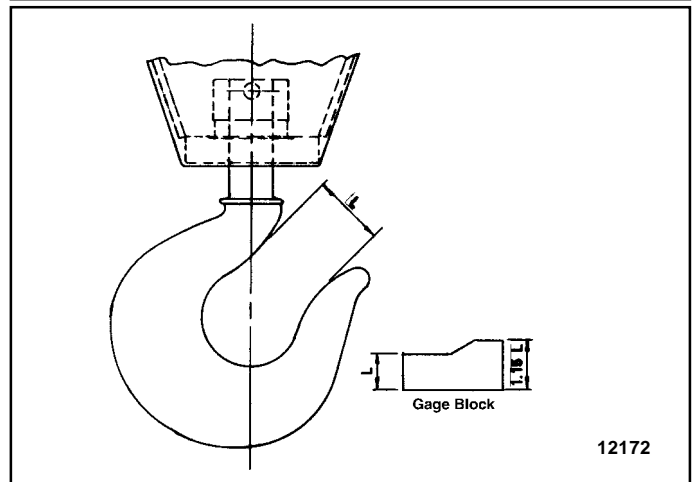

Figure 5-1. Method of measuring hook throat opening
- Check throat opening of hook. (Refer to Figure 5-1.) It is recommended that upon receipt of the hoist, a measurement be made and recorded of the hook throat opening. OSHA regulations require that the hook be replaced if the throat opening exceeds 15 percent of the original opening, or if the hook is twisted more than 10 degrees from the unbent plane. A gage block, properly identified to the hoist, similar to the one shown in Figure 5-1 is suggested to be made for each hook for use in these measurements.